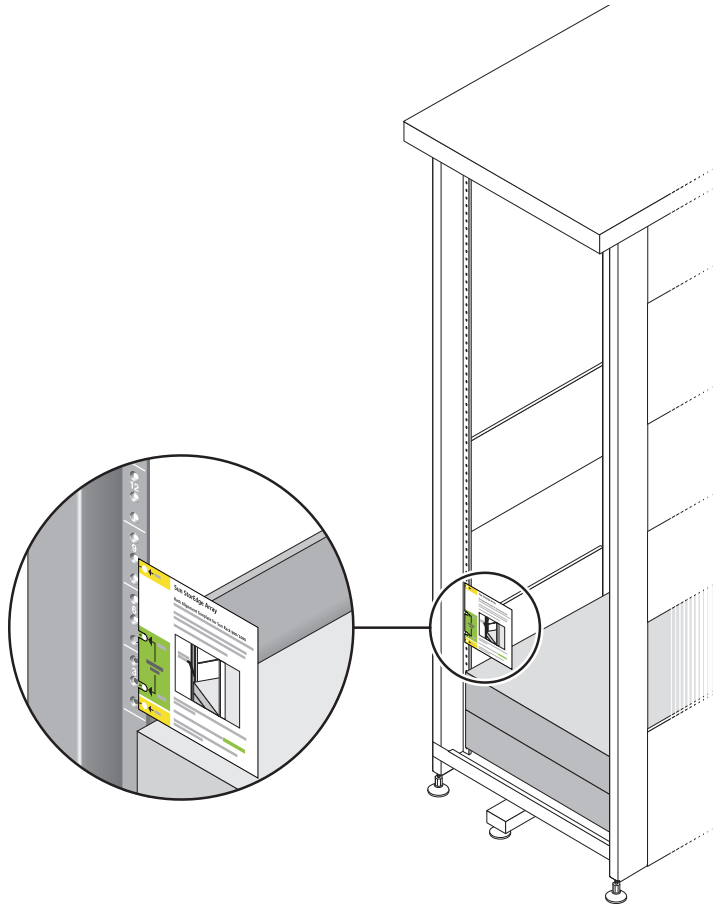

FIGURE 2-8 Positioning the Rack Alignment Template
2. Locate the proper mounting holes by placing the rack alignment template for the Sun Rack 900/1000 cabinet over the front left cabinet rail (FIGURE 2-8).